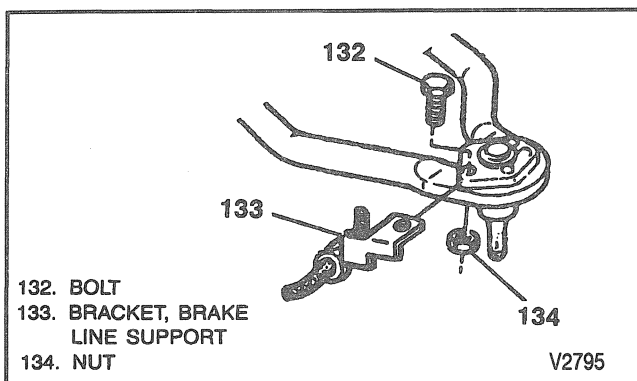

Figure 7—Brake Line Bracket Removal
4. Brake pipe support bracket from upper control arm to allow extra travel of knuckle (Figure 7).